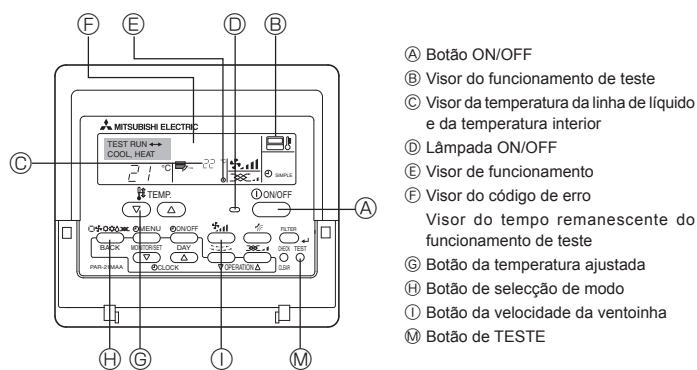

Fig. 9-2
9.2.2. Controlo remoto com fio (Fig. 9-2)